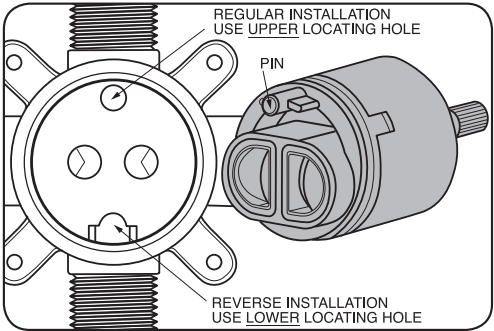

Figure 5
- When a valve is installed with reversed supply connections (typically in a back-to-back situation), the cartridge can be reversed to allow normal operation (see Figure 5).